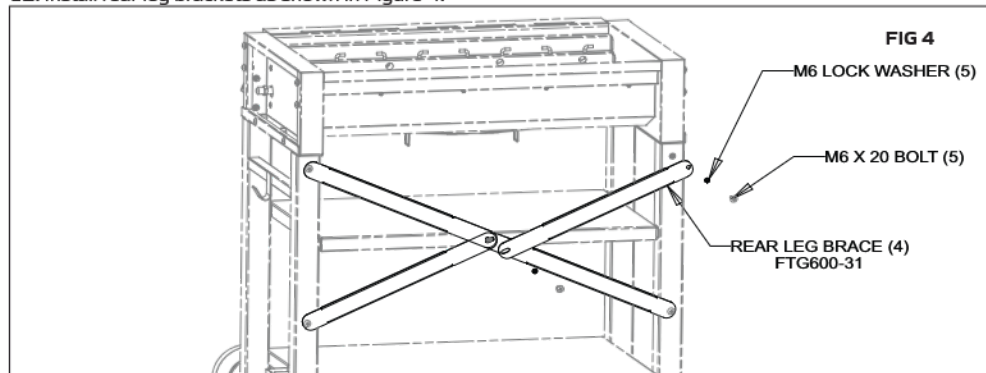

FIG 4
12. Install rear leg brackets as shown in Figure 4.